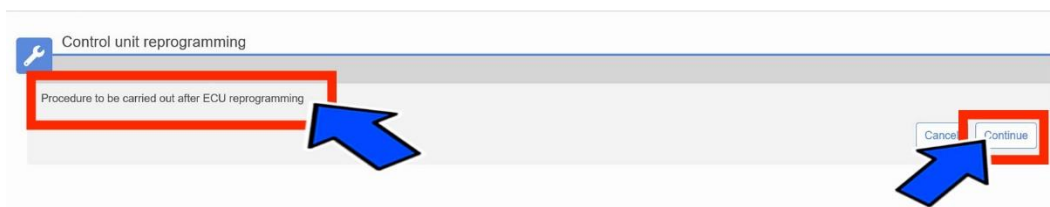

Figure 12 - Procedure to be Carried Out After ECU Reprogramming
- 33. Select “Procedure to be carried out after ECU reprogramming” and then click “Continue” (Figure 12).